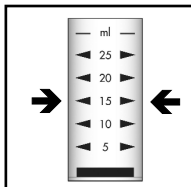

Figure 1
1. Fill the sample cup to the 15 mL mark with the sample to be tested (fig 1).